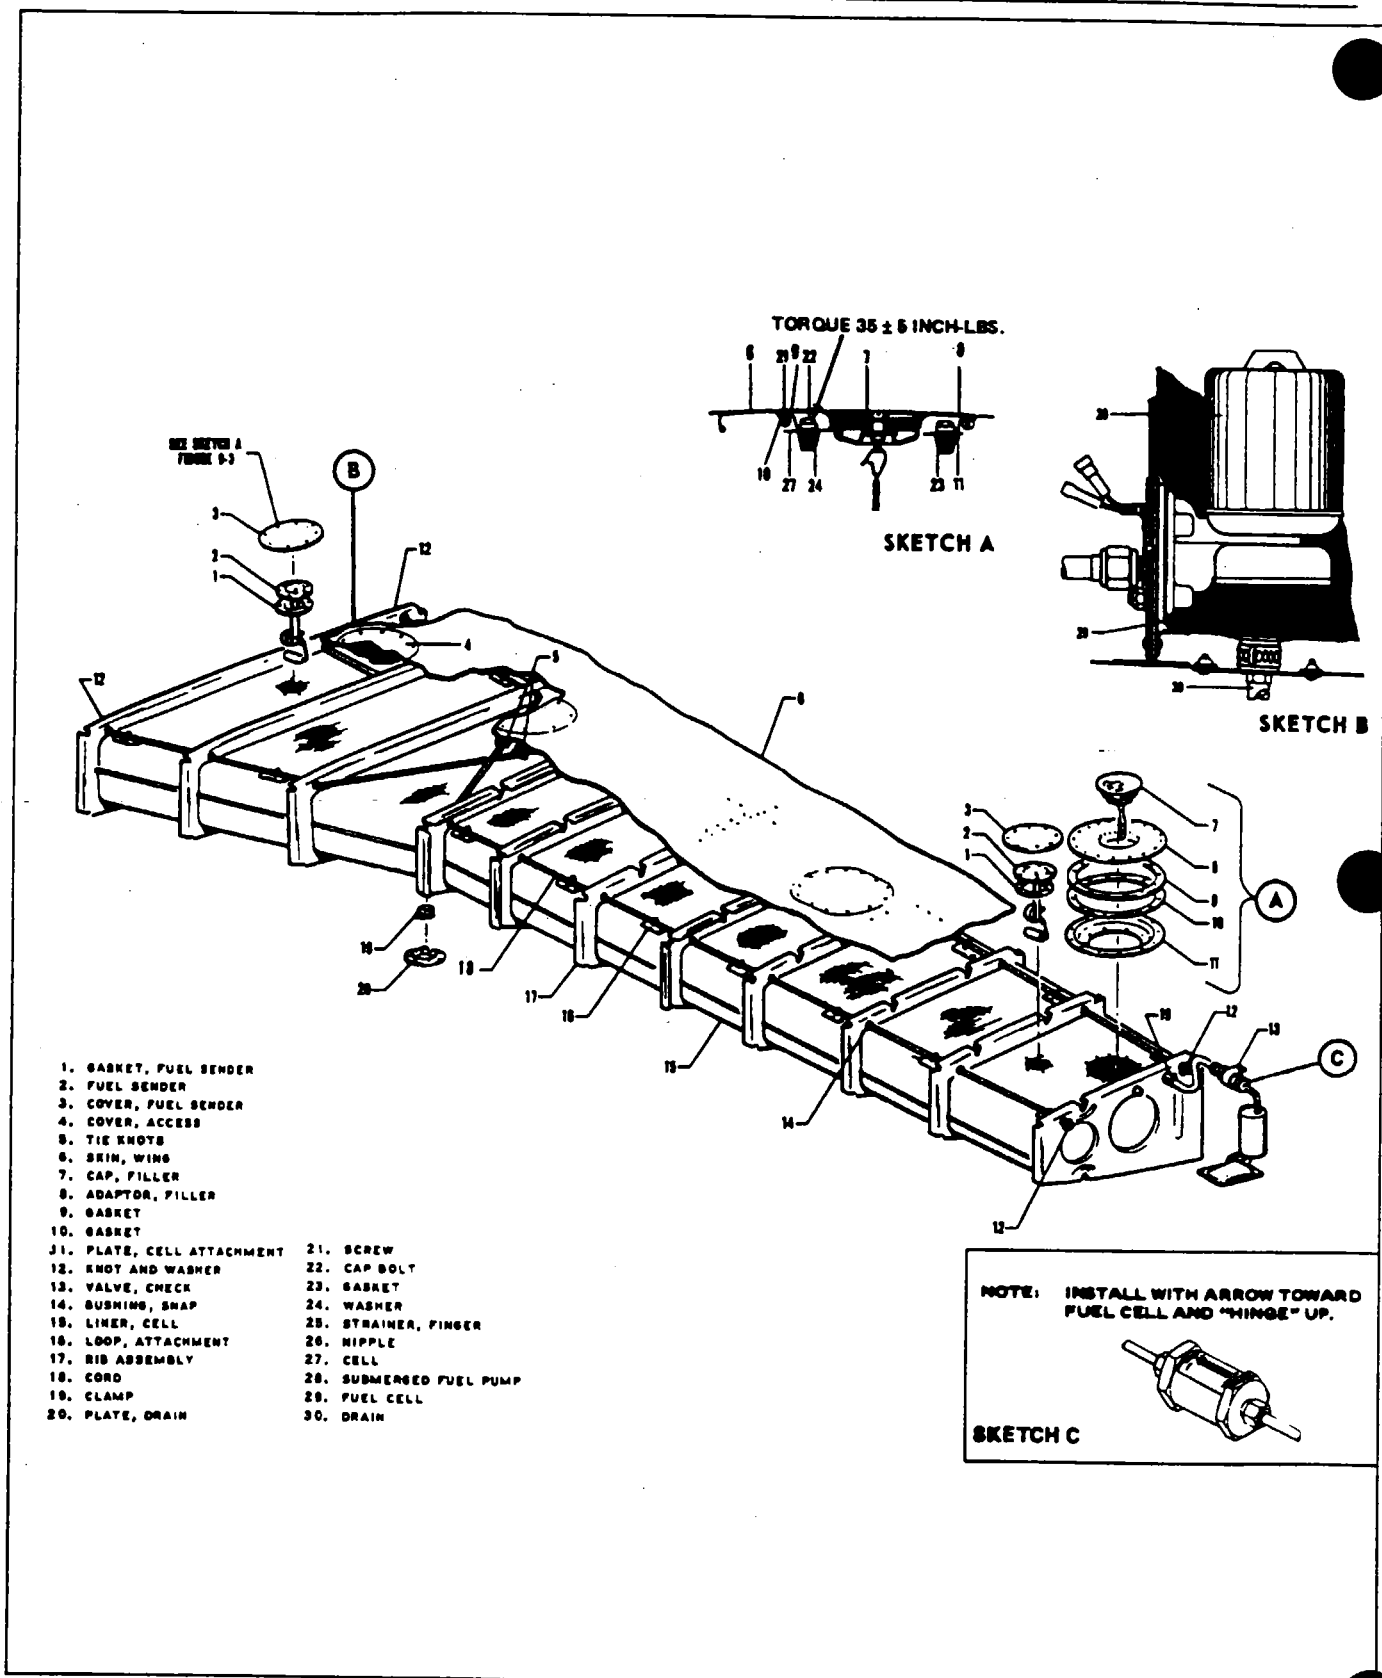

Figure 9-2. Fuel Cell Installation Inboard
9-5. REMOVAL OF WING FUEL CELLS. (Refer to Figure 9-2 and 9-3.)
- a. Insert the fuel pump into the fuel cell as shown in Sketch "B", Figures 9-2 and 9-3.
9-10. INSTALLATION OF FUEL CELL. (Refer to Figures 9-2 and 9-3.)
- i. Lay out the nylon cord on the wing to determine the length of cord for each tie. The cords are routed as shown in Figures 9-2 or 9-3. Allow enough extra cord to work with.